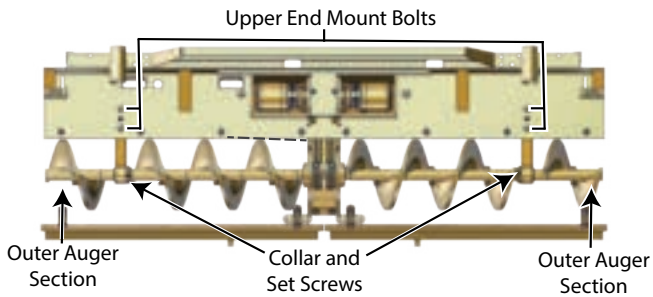

Figure 5-37. Outer Auger and Upper End Mounts
2. Remove the outermost auger section. (**Figure 5-37**)